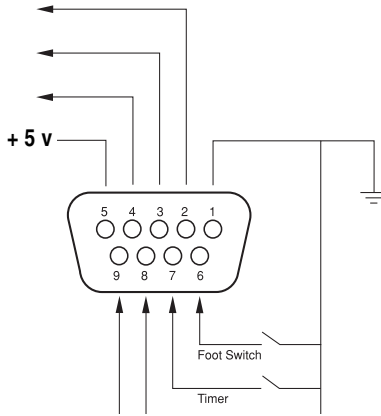

Figure 1. User I/O Connector Specifications
- 11. TTL:** The pump has a nine pin (female) connector for TTL input/outputs (Figure 1).